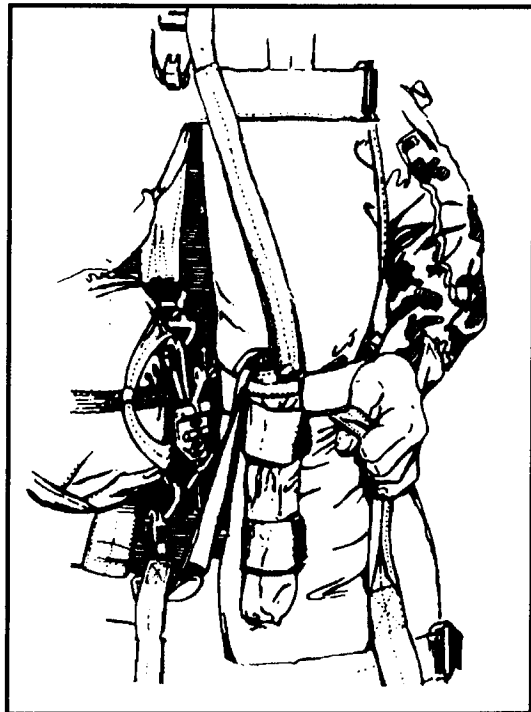

Figure 12-56. AT4JP secured.
- d. Secure the AT4JP by attaching the quick-release assembly to the left D-ring outside of the H-harness snap hook (Figure 12-56, page 12-58). Ensure that the quick-release safety gate is closed and the quick-release snap is locked to the D-ring, and that the quick-release assembly release attachment sequence is inboard to outboard as follows: reserve, H-harness, and AT4JP quick-release snap.